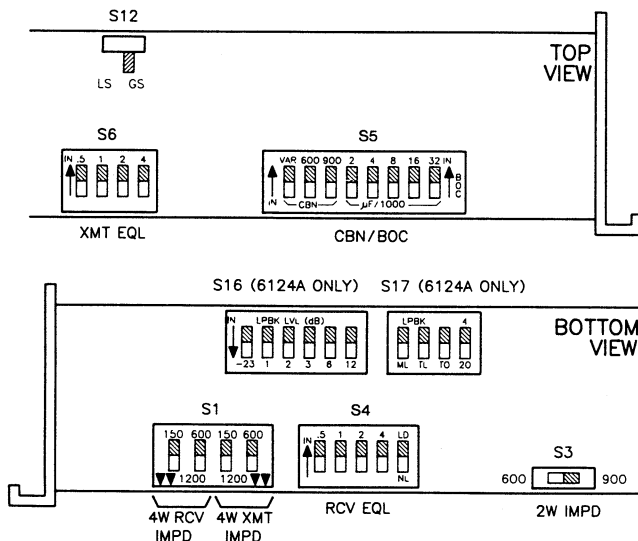

figure 8. 6124/A option switch locations
3.06 Several option switches must be set before the 6124/A is placed into service. Locations of these switches and of certain alignment switches on the module's printed circuit board are shown in figure 8. Table 6 summarizes all switch options and provides a convenient **checklist** that can be filled out either prior to installation for prescription optioning or during installation to serve as a record for later reference. Refer to figure 8 and table 6, and set each option switch on the 6124/A as required.